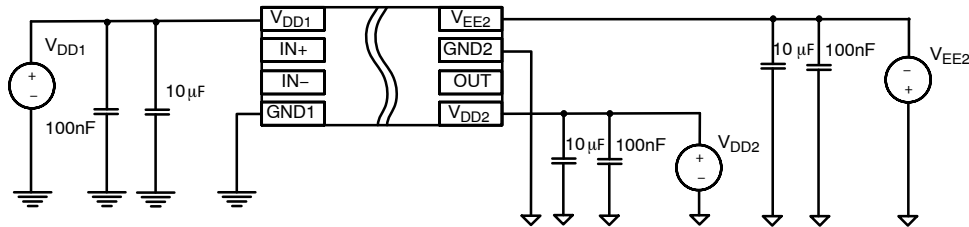

Figure 30. Bipolar Power Supply (NCx5708zB)
- In bipolar power supply the driver is typically supplied with a positive voltage of 15 V at  $V_{DD2}$  and negative voltage  $-5$  V at  $V_{EE2}$  (Figure 30). Negative power supply prevents a dynamic turn on through the internal IGBT/MOSFET input capacitance